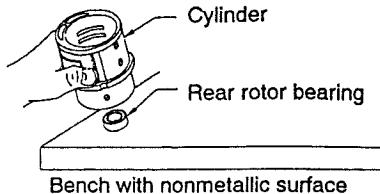

Figure 5
6. To remove the Rear Rotor Bearing, hold the Cylinder with the Rear Rotor Bearing down and tap the Cylinder on a flat, nonmetallic surface such as a work bench. This will loosen the Rear Rotor Bearing so that it will drop out of the Cylinder. See Figure 5.
7. Working from the rear of the Housing, push out the Motor Gasket (7).